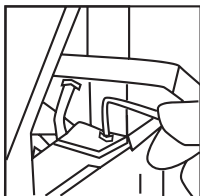

Fig. 4
1. To adjust the platen first tilt the sanding belt table to a 45° angle to gain better access to the 2 hex screws. (Fig. 4)